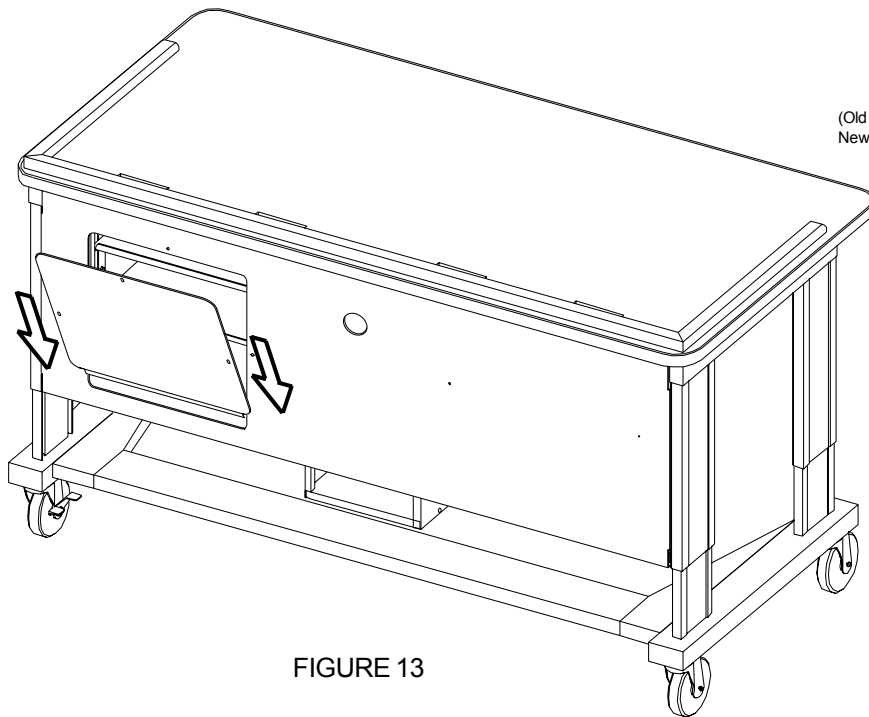
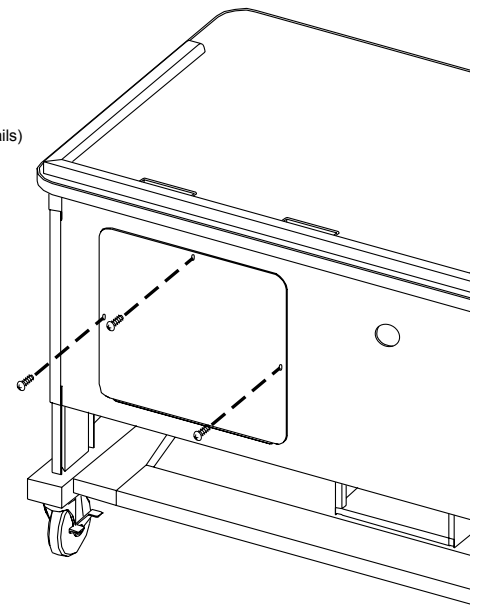

FIGURE 13
FIGURE 14
Attach access door from behind the unit as shown in **Figure 13**. **NOTE:** The access door is meant for easy access to wires/cables of your component pieces. It might be easier to position components on shelves and then attach access door using screws (AA) as shown in **Figure 14**.